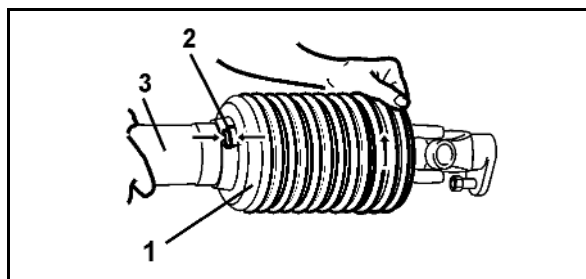

Fig. 50
2. Remove the locking screw (Fig. 50/1) from the PTO shaft guard.